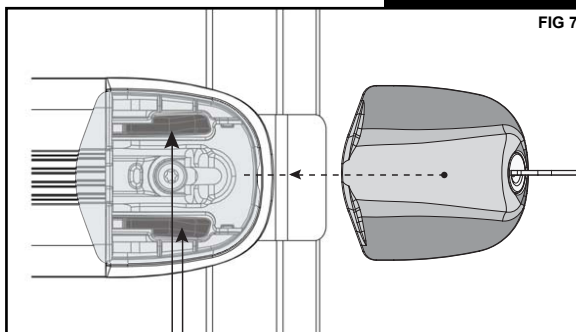
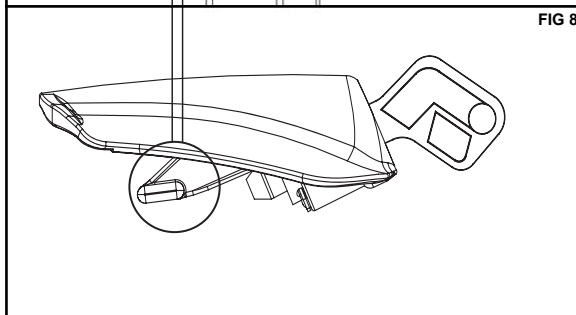

FIG 7
FIG 8
8. Remove Covers from the roof rack kit. Locate the 2 ribs on the underside of the Cover (Fig 8). There are also two designated channels on the End Support Chassis into which these ribs locate (Fig 7).